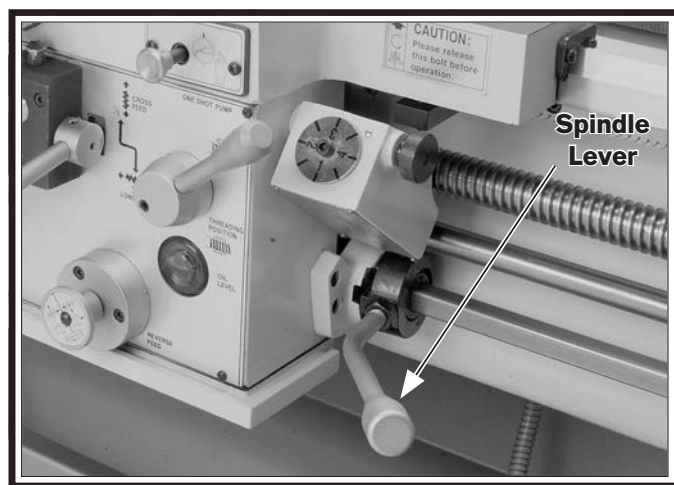

Figure 35. Spindle ON/OFF lever in down (forward) position.
14. Verify that the machine is operating correctly by moving the spindle ON/OFF lever out and down to start spindle rotation (see **Figure 35**).